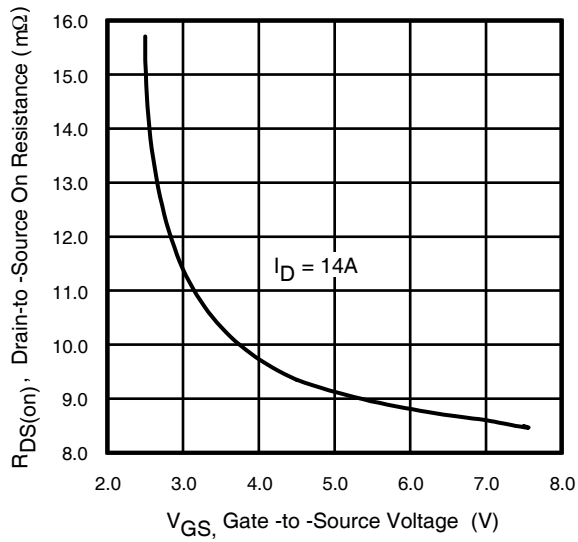
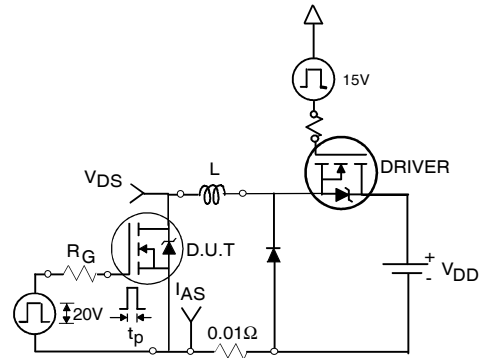

Fig 12. Typical On-Resistance Vs. Gate Voltage
Fig 16c. Unclamped Inductive Test Circuit
- ① Repetitive rating; pulse width limited by max. junction temperature.
- ② Pulse width $\leq 400\mu s$; duty cycle $\leq 2\%$.
- ③ Surface mounted on 1 in square Cu board.
- ④ Starting $T_J = 25^\circ\text{C}$, $L = 2.3mH$, $R_G = 25\Omega$, $I_{AS} = 14A$. (See Figure 12).
- ⑤ $I_{SD} \leq 14A$, $di/dt \leq 140A/\mu s$, $V_{DD} \leq V_{(BR)DSS}$, $T_J \leq 150^\circ\text{C}$.
- ⑥ Limited by T_{Jmax} , see Fig.16c, 16d, 19, 20 for typical repetitive avalanche performance.
3. Equation below based on circuit and waveforms shown in Figures 16c, 16d.